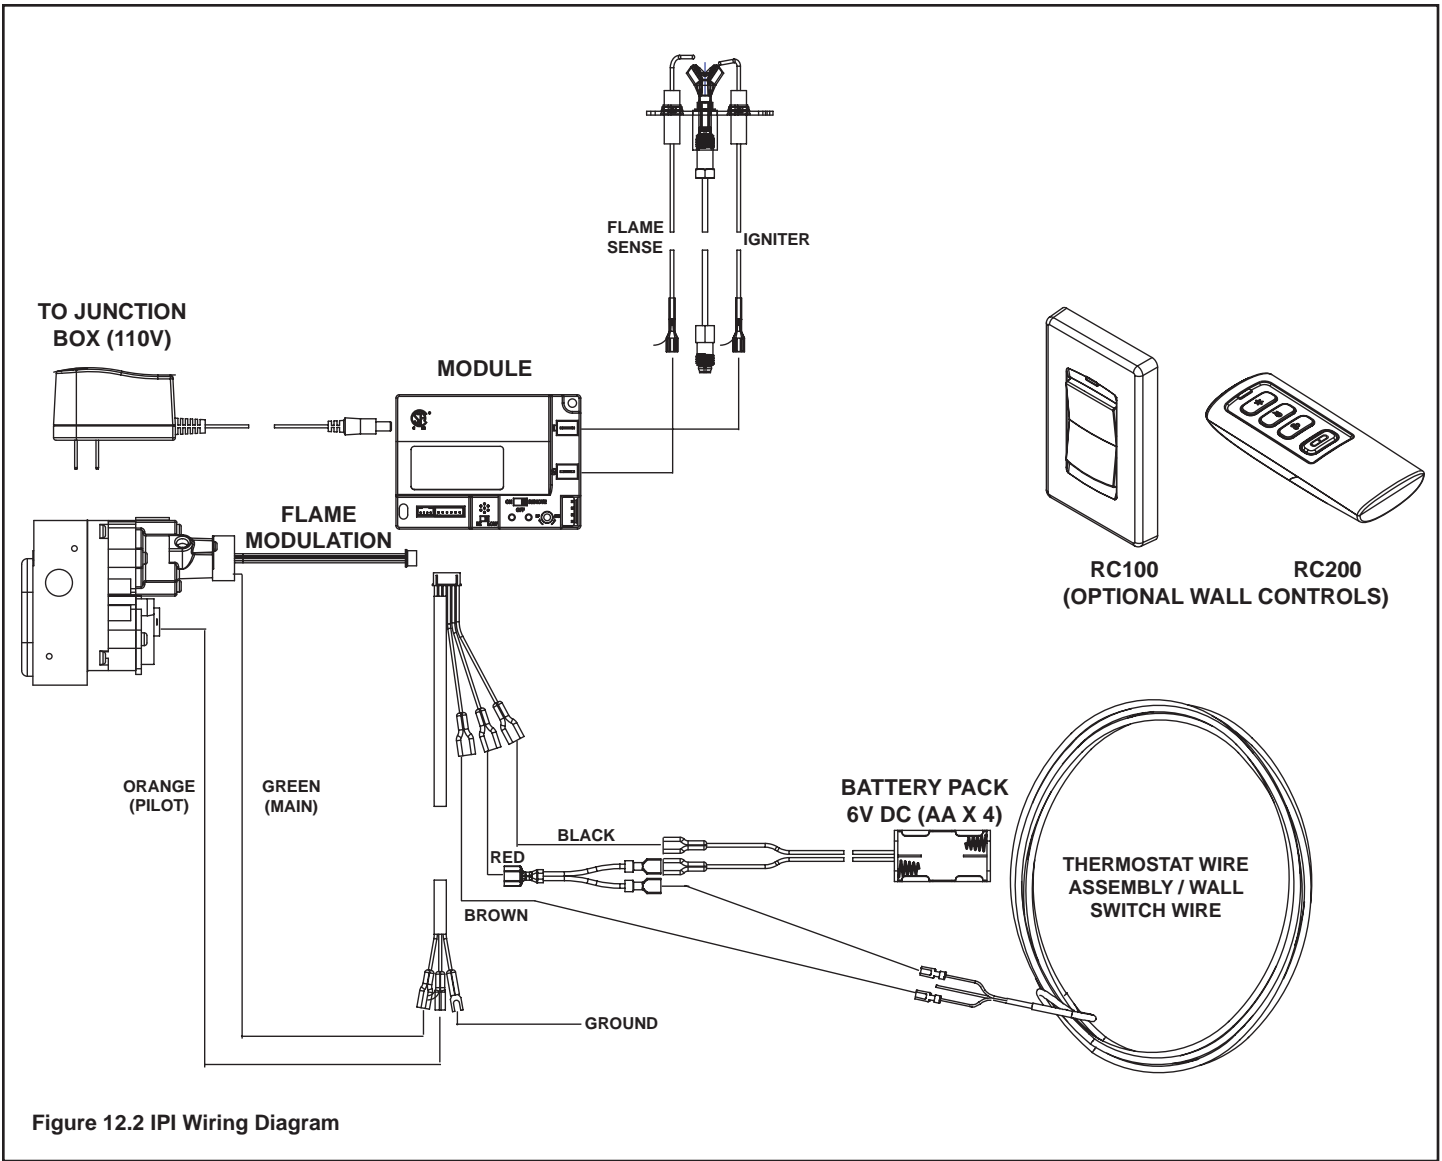

Figure 12.2 IPI Wiring Diagram
- Refer to Figure 12.2, IPI Wiring Diagram.
2. A wall switch can be wired into the control module brown and red wires. See Figure 12.2.